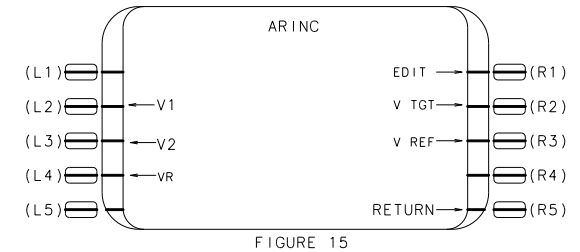

FIGURE 15
- PRESS THE ARINC LSK (L3). THE ARINC PAGE WILL APPEAR (REF FIG 15).